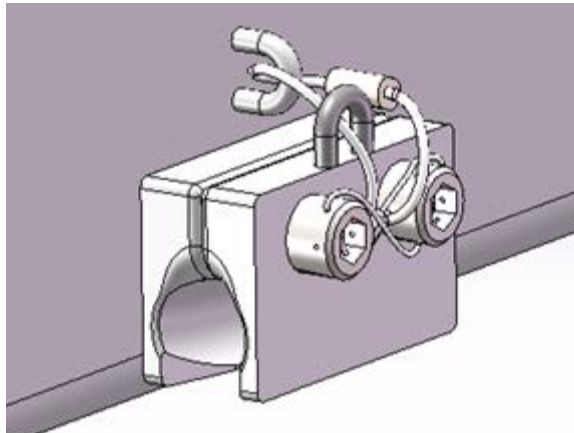

Figure 2: Tensioning cable guides
1. Wire the tensioning cable guides (Figure 2).